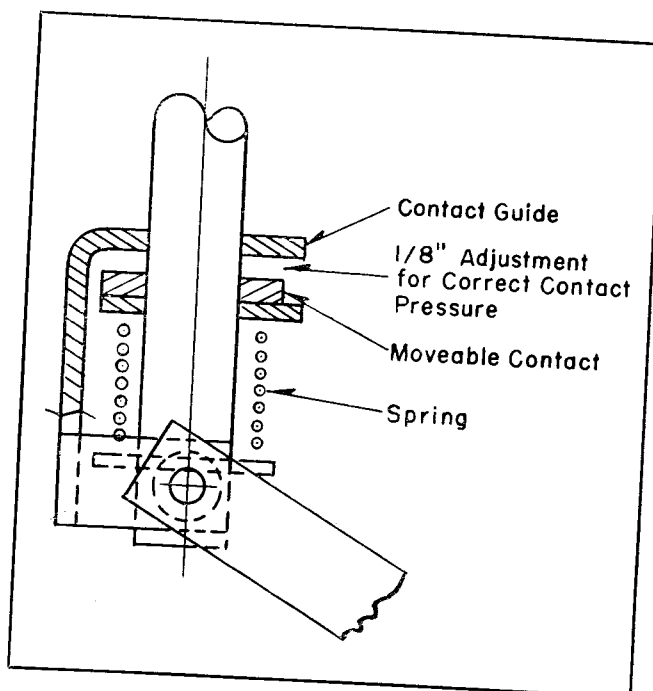

FIG. 5. Contact Adjustment
3. Contact Adjustment. After both the moving and stationary contacts have been replaced close the switch by moving the operating handle to the fully closed position. Then run the stationary contacts up or down as required to cause a separation between the contact guide and movable contact of $\frac{1}{8}$ to $\frac{3}{16}$ of an inch. This compresses the contact spring and provides the contact pressure necessary for proper operation of the switch. Operate the switch several times to be sure the moving contact centers itself on the stationary contacts. Tighten the locknuts on the stationary contacts and recheck the separation between the contact guide and movable contact. See Fig. 5.